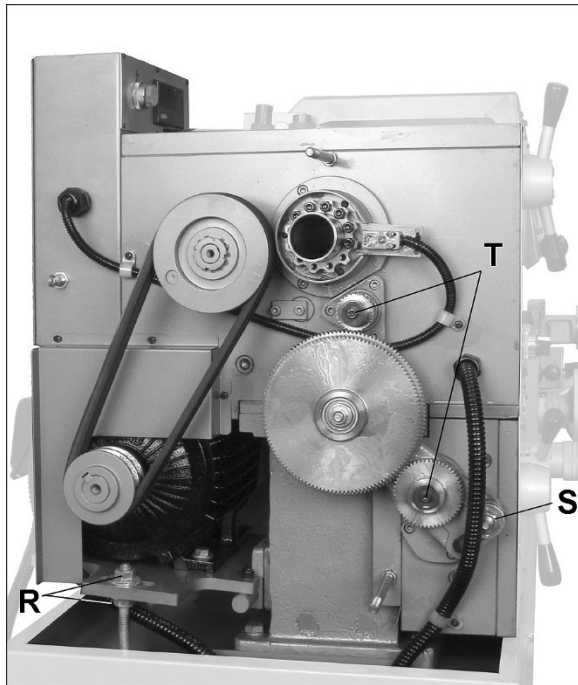

Figure 11-8
Remove end cover. Loosen bottom nut and turn top nut (R, Figure 11-8) to push motor downward to increase tension on belt. Retighten bottom nut.
3. Loosen hex nut (S, Figure 11-8) and move quadrant out of the way.
4. Loosen socket head cap screw (T) and remove gear(s). Select replacement gears to match data on feed and thread chart. Thoroughly clean new gears before installing.
5. Move quadrant so that large gear meshes with the smaller gears, and tighten nut (S) to secure in place. Note: Make sure there is backlash of 0.002" – 0.003" between gears. Setting the gears too tight will cause excessive noise and wear.